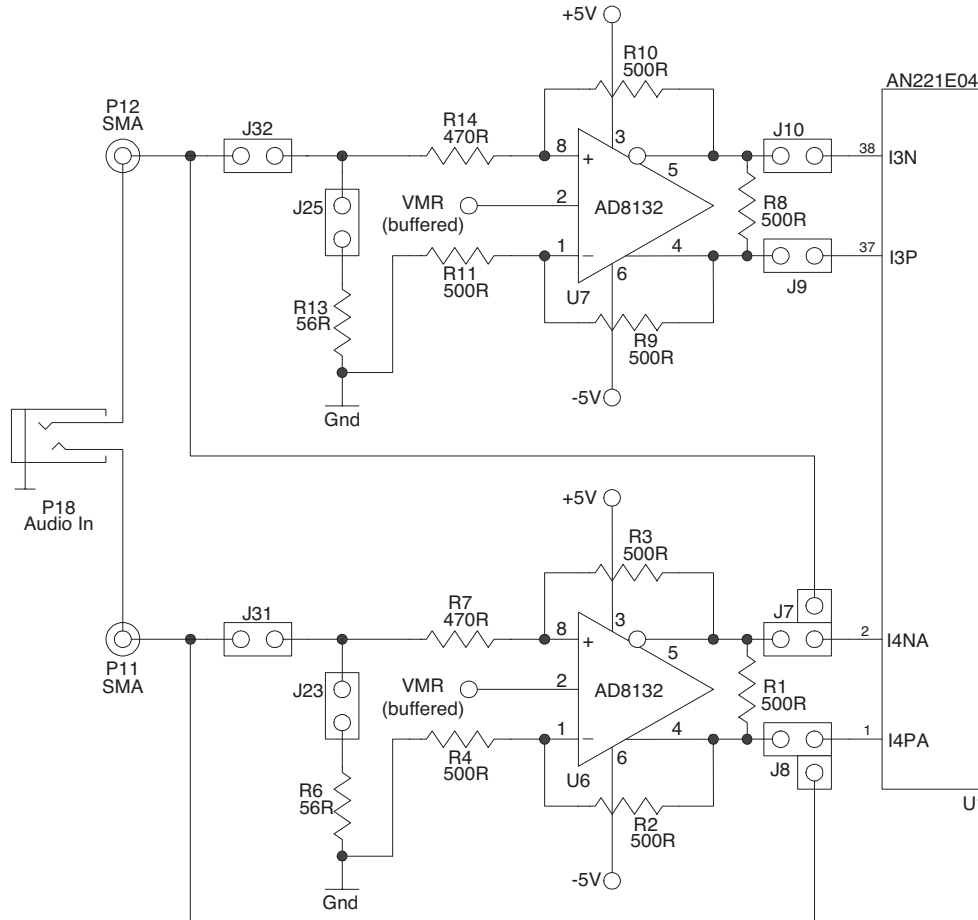

Figure 6 – Single-Ended to Differential Converters
1. Single-ended ground referenced signals can be input using the SMA connectors P11 and P12. By default, the SMA connector pins are connected to the differential input pins (pins I3P and I3N, I4PA and I4NA) of the AN221E04 device via two single-ended to differential converters (shown as U6 and U7 in Figure 6). The gain of these circuits is 1. The output is a differential signal whose amplitude is equal to the input signal amplitude, and whose common mode voltage will be VMR (nominally 2.0 V).
jumpers should be taken off J31 and J32 to isolate the SMA connectors from the single-ended to differential converters. Figure 6 shows this circuit in detail.